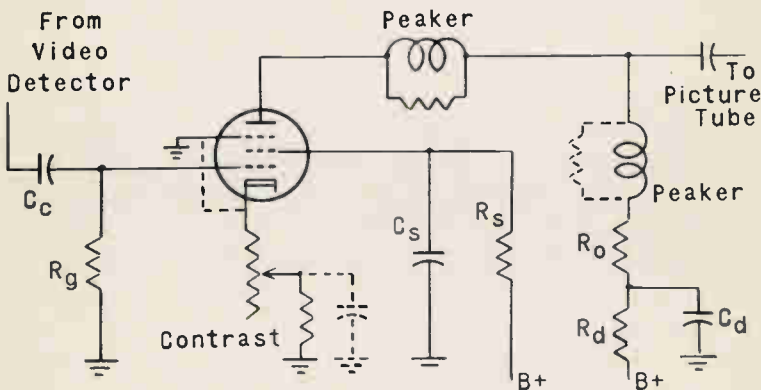
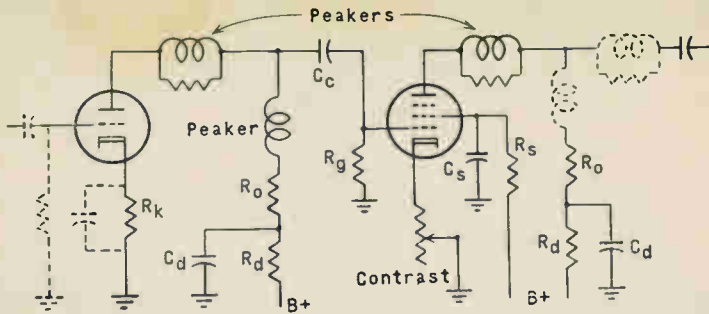

Fig. 6-1. A single stage video amplifier.
Fig. 6-2. A two-stage video amplifier section.
Principal components of a single stage video amplifier section are represented in Fig. 6-1. Fig. 6-2 shows a two-stage video amplifier section. The tube for a single stage nearly always is a pentode or a beam power tube. Tubes in two stages may be two triodes, two pentodes, or other combinations of triode, pentode, and beam power amplifiers.
A plate peaker ordinarily is paralleled with a resistor of a few thousand ohms to broaden the response and prevent excessively sharp peaking. The load peaker to  $B+$  may or may not have a broadening resistor, as in Fig. 6-1, or the
peaker may be omitted entirely as indicated by the broken-line symbol in Fig. 6-2.
To provide a minimum bias there may be a fixed resistor in series with an adjustable cathode resistor, as in Fig. 6-1. The fixed resistor sometimes is bypassed. With no fixed cathode resistor, and while a contrast control is set for zero resistance, there is grid-leak biasing action in capacitor  $C_c$  and resistor  $R_g$  of the diagrams.
**29-33.** A test for decoupling capacitors too small or open is made by temporarily paralleling them with an electrolytic capacitor of about 10 mf and 450-volt rating. Be sure to make connection on the low side of a plate load resistor, as shown for capacitor *Cd* in Fig. 6-1, and directly to the screen, as for capacitor *Cs* in that diagram.